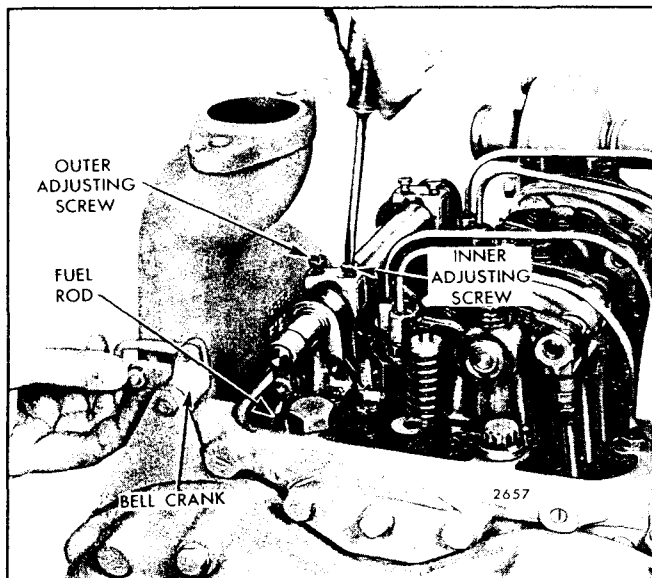

Fig. 1 - Positioning Injector Rack Control Levers
2. Loosen all of the inner and outer rack control lever adjusting screws (Fig. 1). Be sure all of the levers are free on the injector control tube.